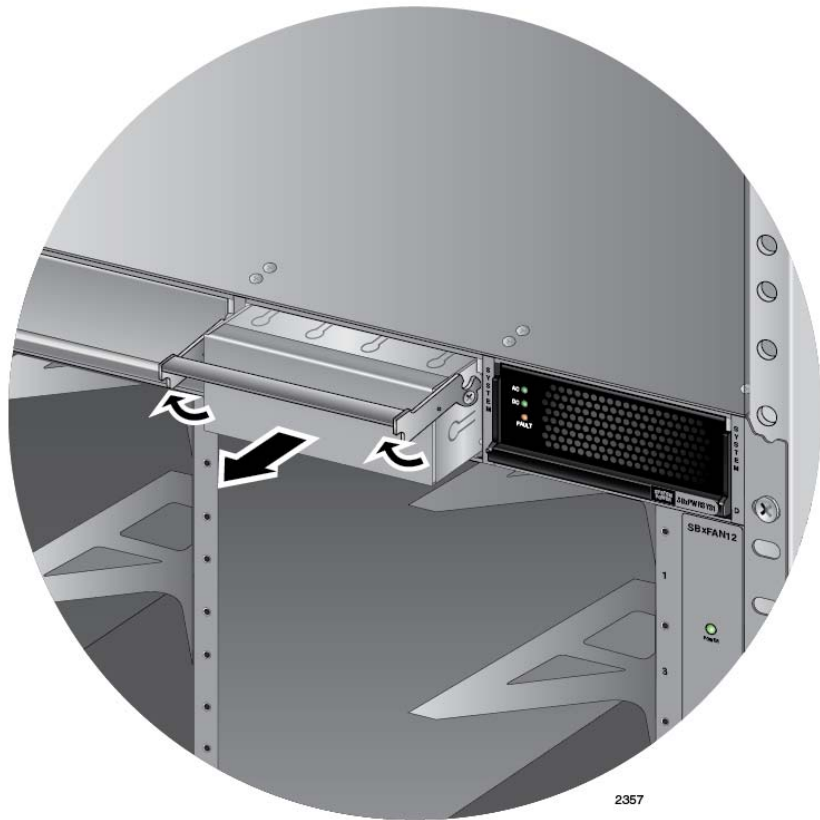

Figure 49. Removing the Blank Slot Cover from Power Supply Slot C
2. If the chassis already has a power supply in slot D, remove the blank power supply panel from slot C by lifting the blank panel handle and sliding it out of the slot, as shown in Figure 49 on page 96.